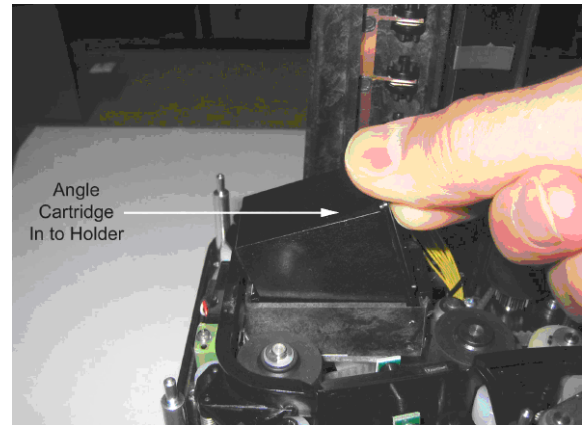

Fig. 6
5. Carefully, insert the nose (inkjet end) of the cartridge into the cradle (Fig. 6) in the scanner and slide forward while keeping the reservoir end of the cartridge tilted slightly upward.